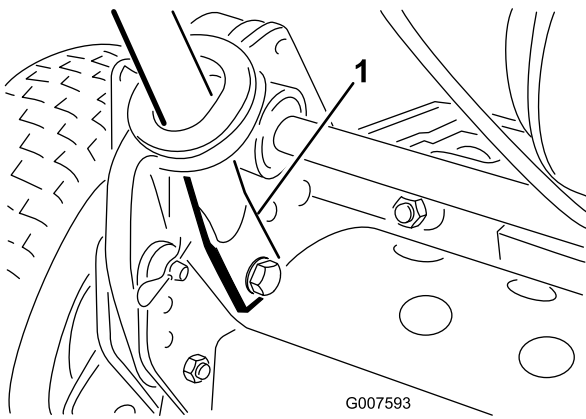

Figure 3
3. Squeeze the handle ends inward and install them on the mounting pins (Figure 3).
4. Secure the handle ends to the mounting pins with the bolts, washers, and lockwashers previously removed (Figure 3).